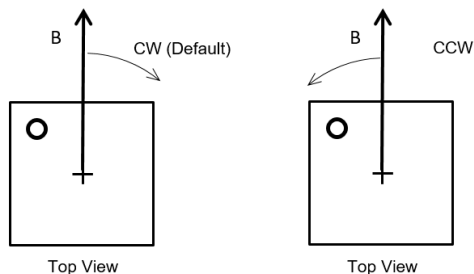

Figure 27: Positive Rotation Direction of the Magnetic Field
field rotates clockwise (CW) (see Figure 27 on page 30).